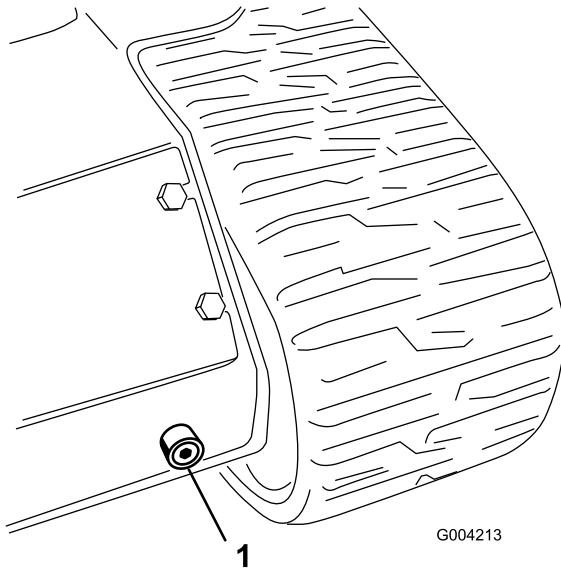

Figure 53
6. Place a large drain pan (capable of holding 15 US gallons) under the drain plug on the front of the traction unit (Figure 53).
7. Remove the drain plug and allow the oil to drain into the pan (Figure 53).